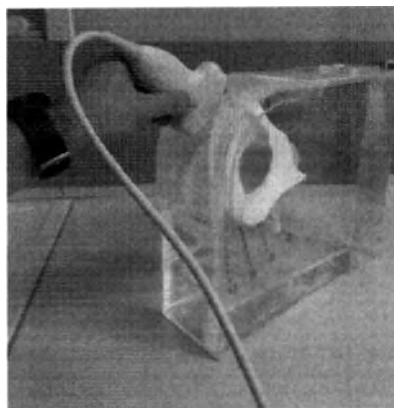

Figure 52. Application of probe.
2.6. Apply the probe longitudinally to the ProgSim membrane (Fig. 52):